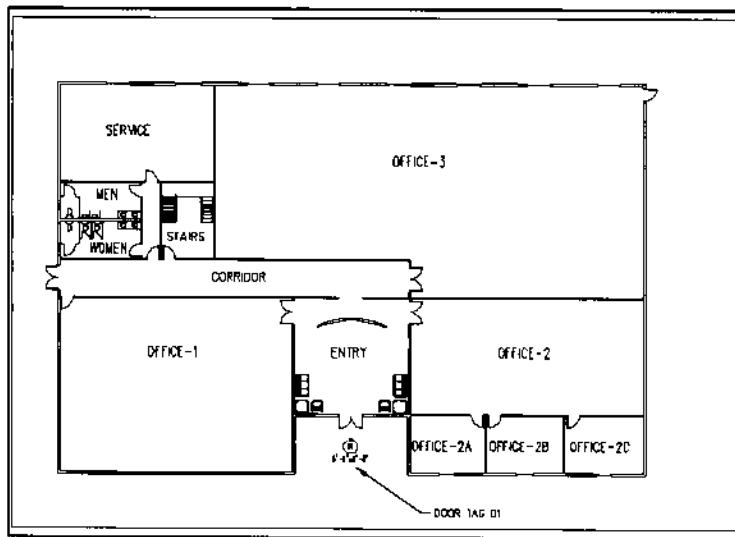

Figure 7.
4. Insert the tag in the drawing by picking a point below the Entry Door as shown in Figure 7.
- > Pick insertion point: [place Door tag as shown in Figure 7 and enter the following values in dialog box]